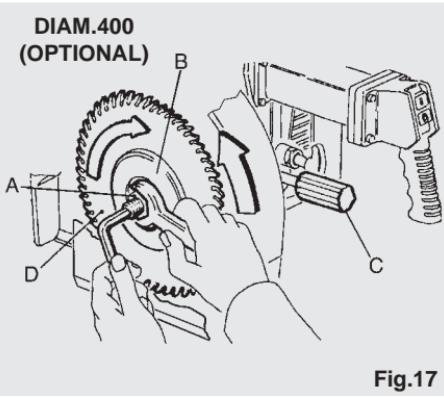

Fig.17
Open the blade cover guard, use the handle (C) to loosen the locking, move the lower guard to the lower end and stop it in this position. After locking the guard, there will be enough space for the blade clamping flange passage (B). To loosen the nut with left-hand thread (A) in Fig. 17, hold the output shaft introducing a socket head screw as shown in Fig. 17 and use an open key clockwise. Mind not to hurt yourself against the blade while carrying out this operation. To this purpose, we suggest you wear gloves. Pull out the external flange (B) so as to reach the blade's housing (D). Remove the
Mind that the direction of the blade's teeth is the same as shown in Fig. 17. Blades must have a central hole of Ø 30 mm (Ø 1") and max diameter of Ø 400 mm (Ø14"), Ø 450 mm (Ø 16") depending on the casing and motor (shaft in inches) fitted on the machine.